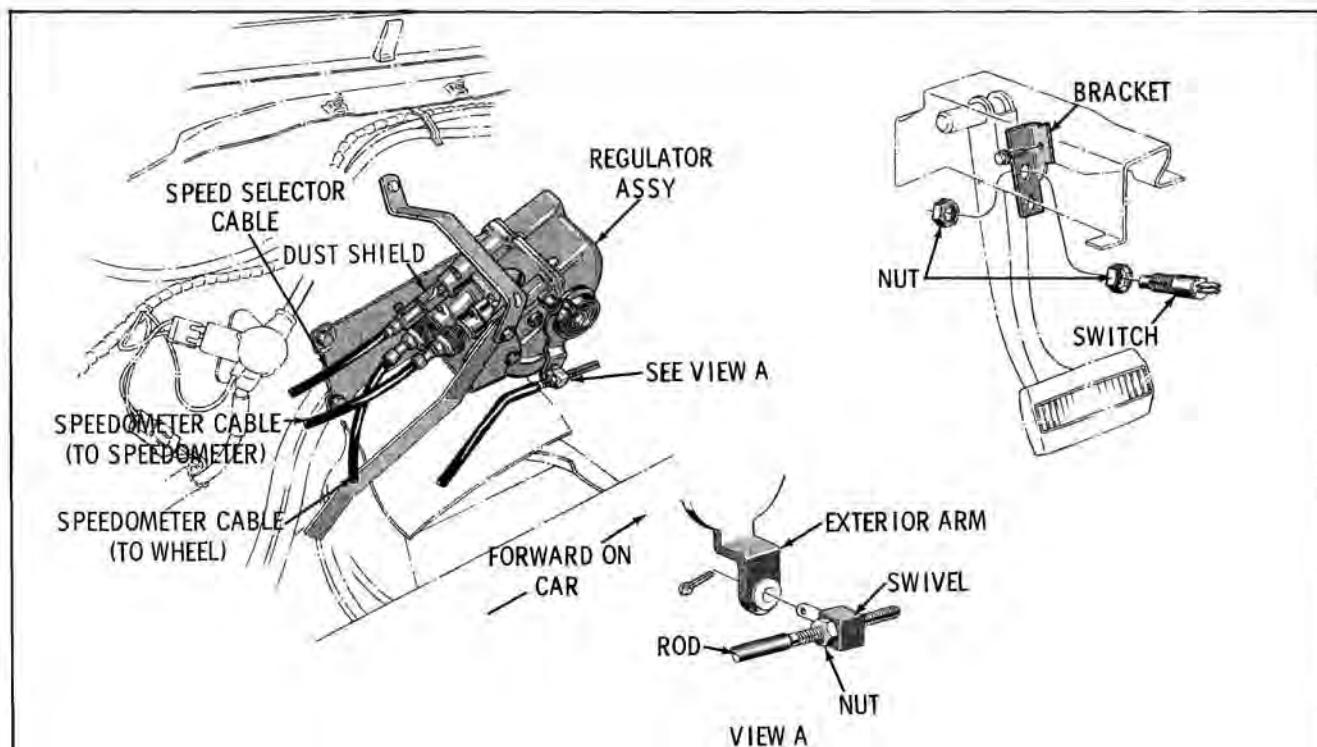

Fig. 12-38 Cable Installation
2. Loosen set screw on dust shield, Fig. 12-38. (This screw retains control cable in dust shield.)